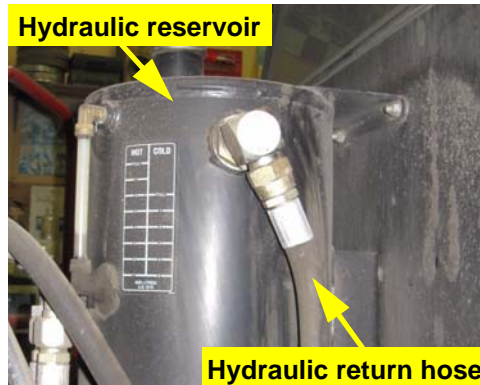

Figure 3c: Tank location
- d. Locate the hydraulic reservoir mounted on the back side of the cab. Remove the hydraulic return hose on the side of the reservoir and install adapter fitting **H** and reducer fitting **I**. Reattach the return hose to the end of the run-tee fitting **H**. This run-tee will be used as the tank return for the automated steering block (Figures 3c and 3d).